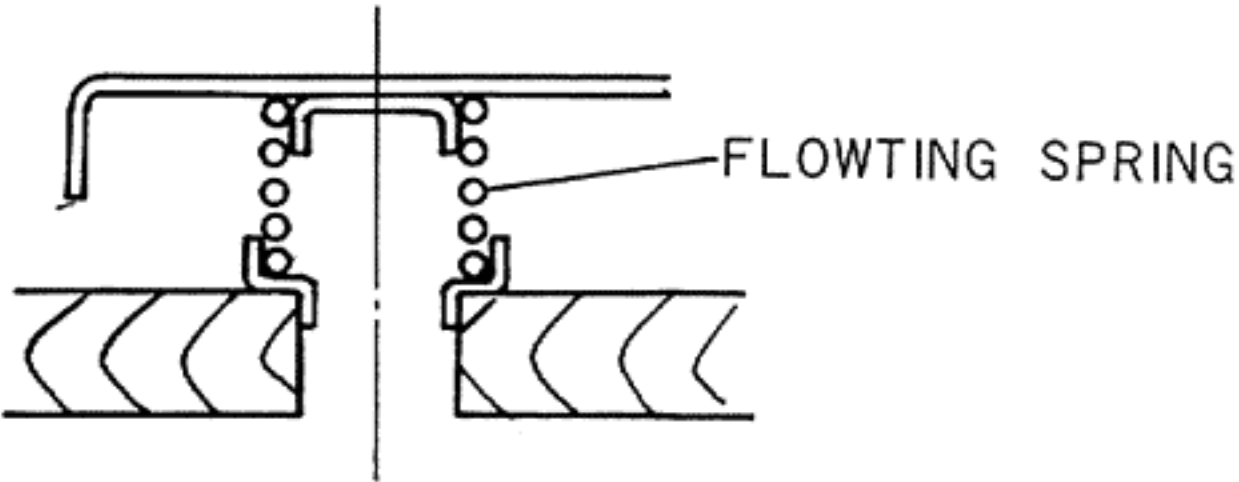

Fig. 3
- b. Check the Floating Spring to see if the record-changer is correcting in the cabinet. (Fig. 3)